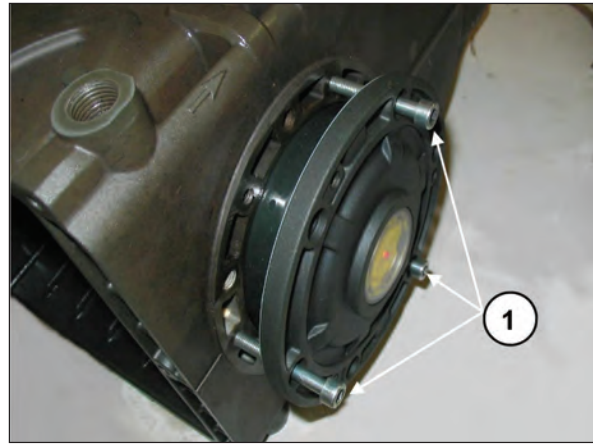

Fig. 8
To facilitate filling of the first section and relative fitting of the covers on the casing, it is recommended to use 3 partially-threaded M6 x 40 screws, (Fig. 8, pos. ①) to then complete the operation with the screws supplied (M6x16).